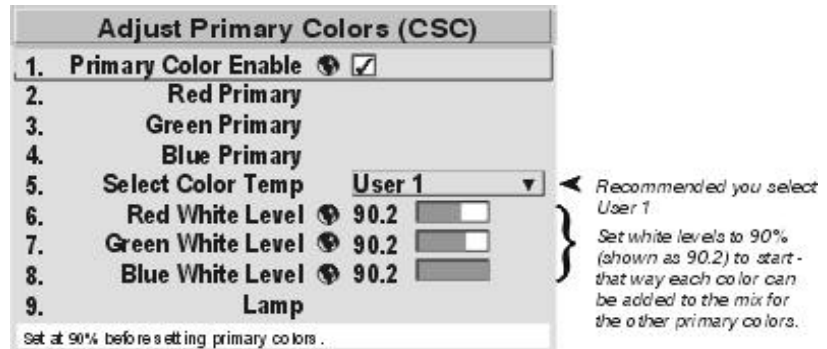

Figure 3.34. Select User 1 and set White Levels to 90%
**2b) SELECT A "USER" COLOR TEMPERATURE ("USER 1" RECOMMENDED)** (Figure 3.34.) In the *Adjust Primary Colors (CSC)* menu, select a "User" color temperature that you will be defining through your adjustment of primary colors on each projector. Choose any of the four User choices, but note that User 1 is the default color temperature applied if you add a new source in the future while Primary Color Adjustment is activated (instead of the usual default of 6500K applied when Primary Color Adjustment is not enabled). As in any color temperature menu, white levels for preset color temperatures cannot be changed.